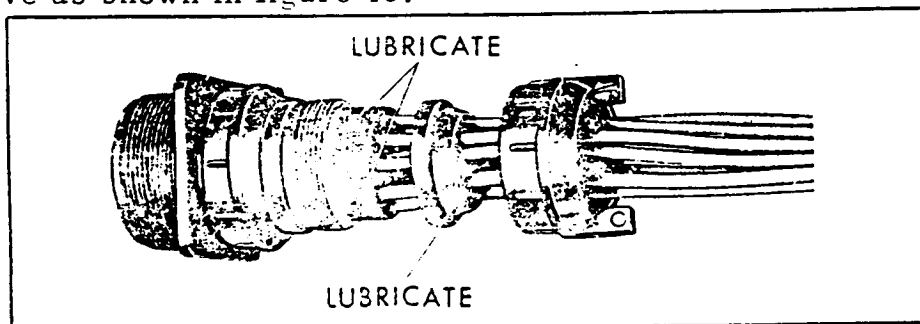

Figure 13
d. Apply a thin film of petrolatum to outside diameter of the grommet and sleeve as shown in figure 13.